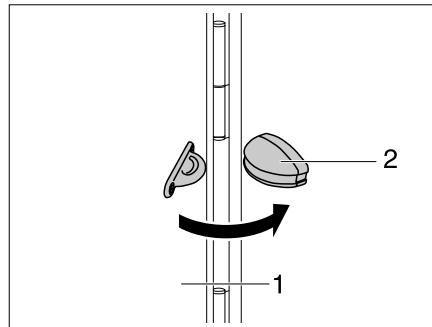

Fig. 58 Holding device external flap
- Open the external flap (Fig. 58,1) and swing it towards the vehicle side.
- Press the external flap into the holding device (Fig. 58,2).
- Pull the external flap (Fig. 58,1) with a firm tug out of the holding device (Fig. 58,2).